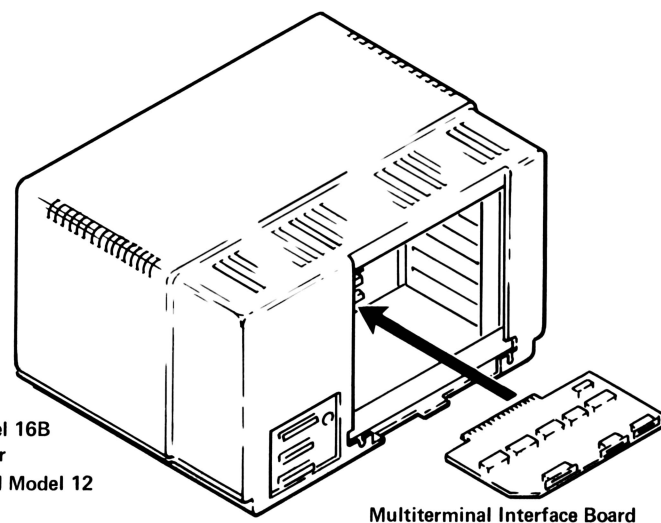
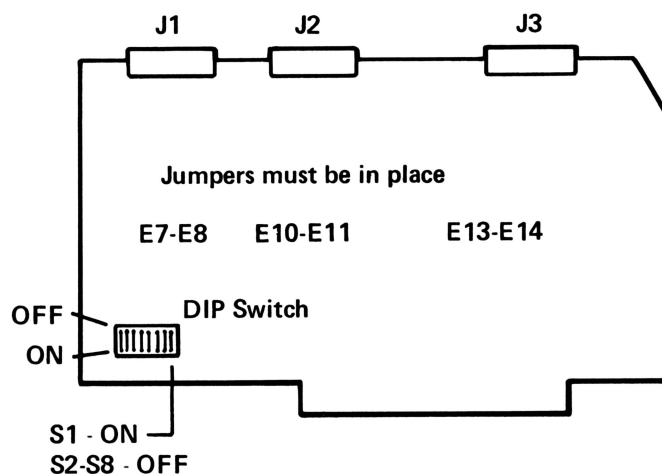

Figure 2-1. Multiterminal Interface Board Installation
Figure 2-2. DIP Switch Settings
Insert Multiterminal Interface PCB as noted in Figure 2-1.
2. Remove the card holding brackets from either side of the card cage to allow the Multiterminal Interface board to be installed. Attach the cable end(s) to the connector(s) on the Multiterminal Interface Board. The DIP switch S1 must be set for the proper operation as noted in Figure 2-2. Slide the board into the connector slot as shown in Figure 2-1. The Multiterminal Interface board must be in the interrupt chain. Therefore, there must be no empty slots between the board and J1. The Multiterminal Interface board must be in J1 if no other boards are present.